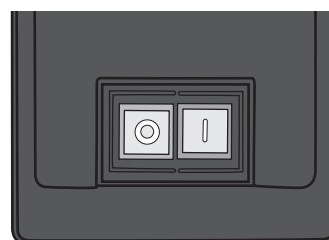

fig. 15
3.8 Power switch operation (fig. 15)